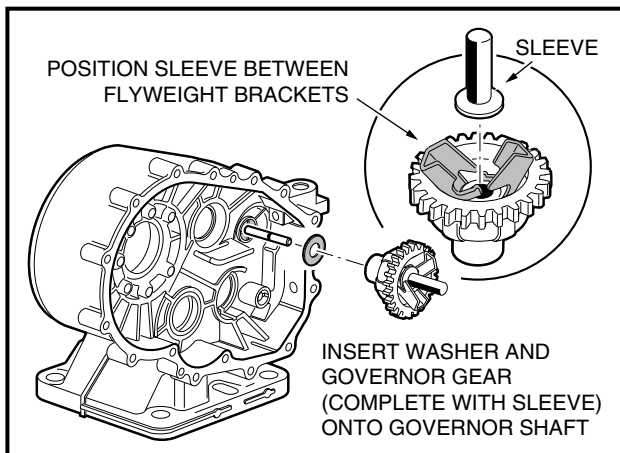
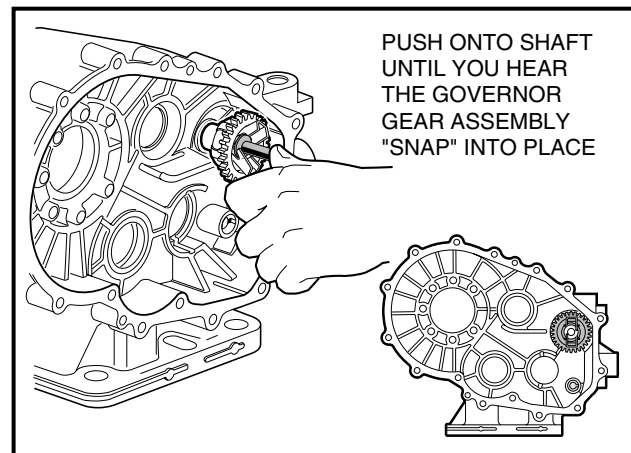

FIGURE 10-70
FIGURE 10-71
4. Install the washer, and then the governor gear and sleeve together, onto the governor shaft (**Figure 10-70, Page 62**). Make sure the sleeve is properly positioned within the flyweight brackets of the gear as shown (**Figure 10-71, Page 62**), and then push them onto the shaft until the gear snaps into the groove on the shaft.